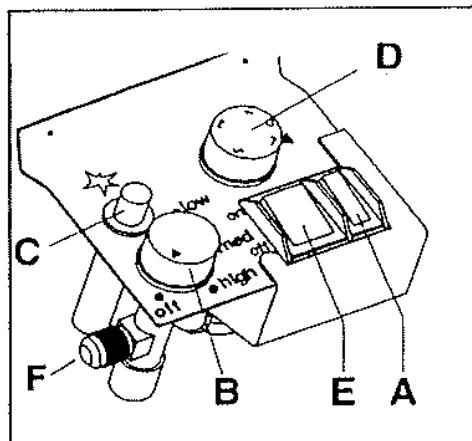

Fig. 8 (RM2193)
- Terminate gas operation by turning the knob of the gas control device (B) to the “OFF” position.
- Switch the 120-volt AC toggle switch (E in Fig. 8) to the “ON” position and switch the thermostat to a mid position.